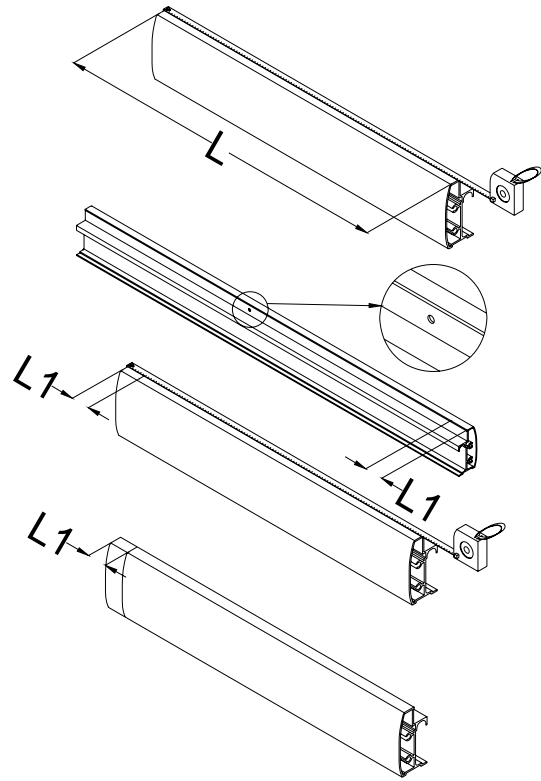
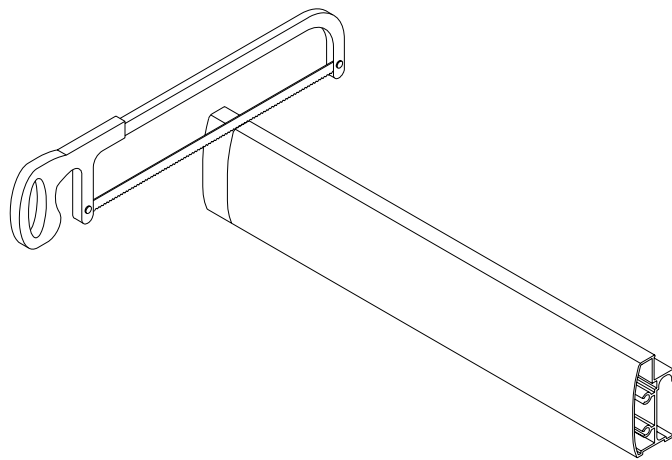

Fig 2
Fig 3
2. Measure the length of the guide rail which is L, if  $(L + 3\ 1/2") \leq W \leq (L + 5")$ , there is no need to cut the guide rail, you can go to Step 4. If  $W < (L + 3\ 1/2")$ , then you need to cut one side of guide rail which is farther from the glass holder hole. The cutting length will be L1;  $L1 = (L + 3\ 1/2" - W)$ . See Fig 2 and Fig 3 for details.